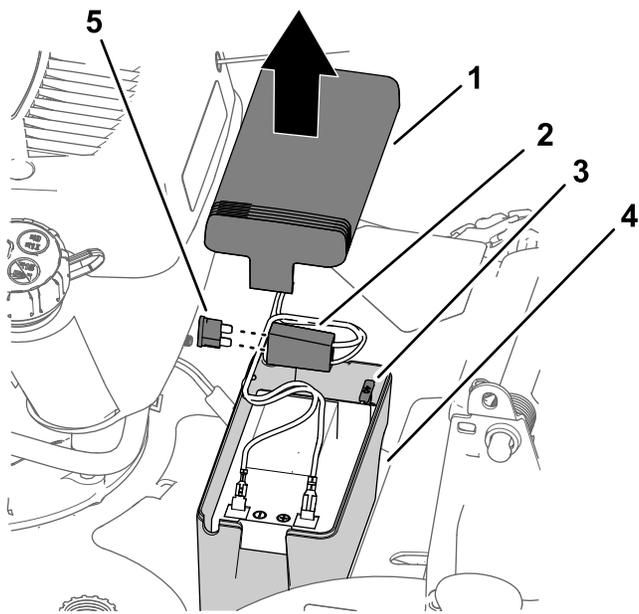

Figure 26
1. Remove the cover from the battery compartment (Figure 26).
2. Locate the fuse (Figure 26).
3. Replace the fuse in the fuse holder (Figure 26).
4. Install the cover over the battery compartment (Figure 26).